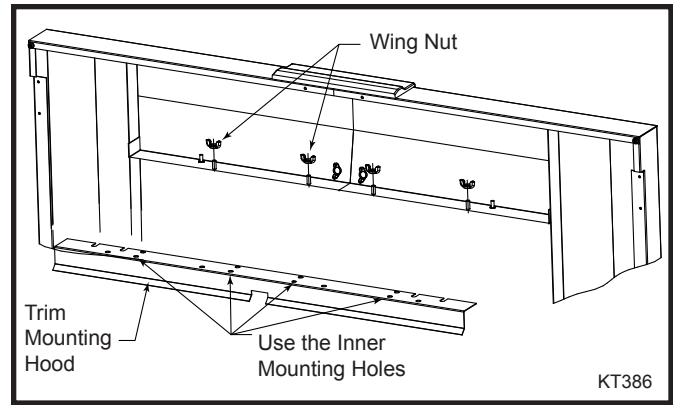

Fig. 8 Adjust trim mounting hood to correct hole location.
2. Before installing trim kit, LHEABSL, some modifications must be completed. Remove two (2) or four (4) wing nuts from the back of the trim kit and locate the trim mounting hood to the two (2) or four (4) outer holes. Fasten the wing nuts back in position. (Fig. 8)